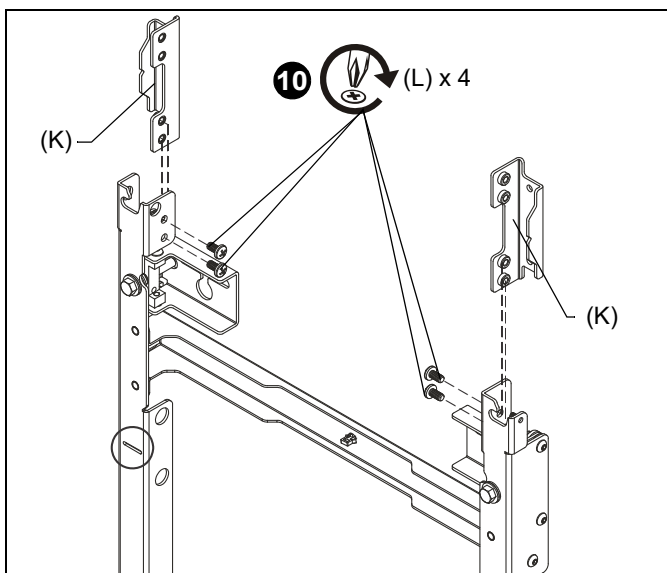

Figure 8
- Add the vertical connector (K) to the top or bottom of the mount, and fasten with two 1/4-20 x 1/2" Phillips head screws (L) per vertical connector. (See Figure 8)